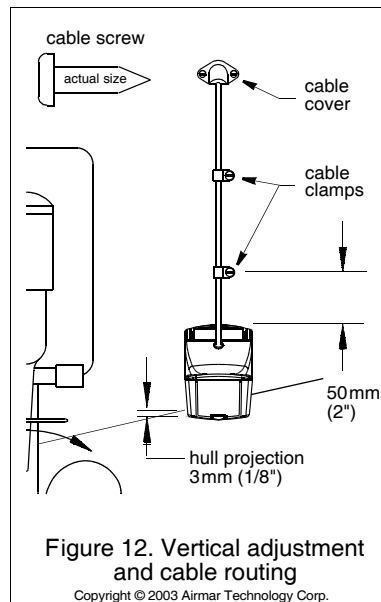

Figure 12. Vertical adjustment and cable routing
2. Check that the bottom left corner of the sensor projections 3mm (1/8") below the bottom of the hull (Figure 12).
- b. Move the sensor deeper into the water in increments of 3mm (1/8") (Figure 12).
1. If a hole must be drilled through the transom, choose a location **well above the waterline** (Figure 12). Check for obstructions such as trim tabs, pumps, or wiring inside the hull. Mark the location with a pencil. Drill a hole using the appropriate size bit to accommodate the connector.